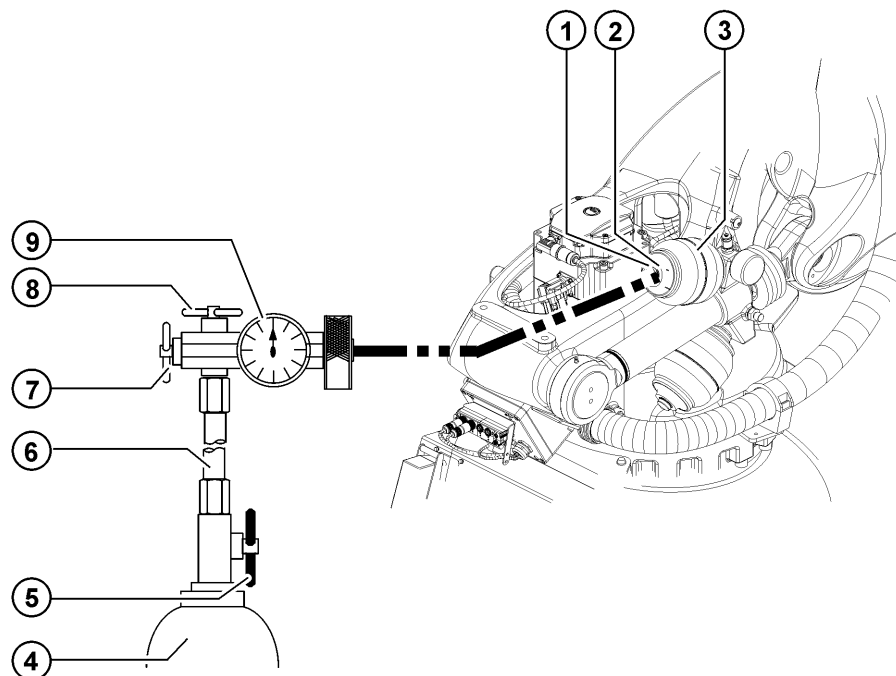

Fig. 10-5: Setting the gas pressure
7. Remove the protective caps (>>> Fig. 10-5) from the diaphragm accumulator and unscrew the Allen screw slightly (without a torque wrench, by a quarter of a turn at the most).